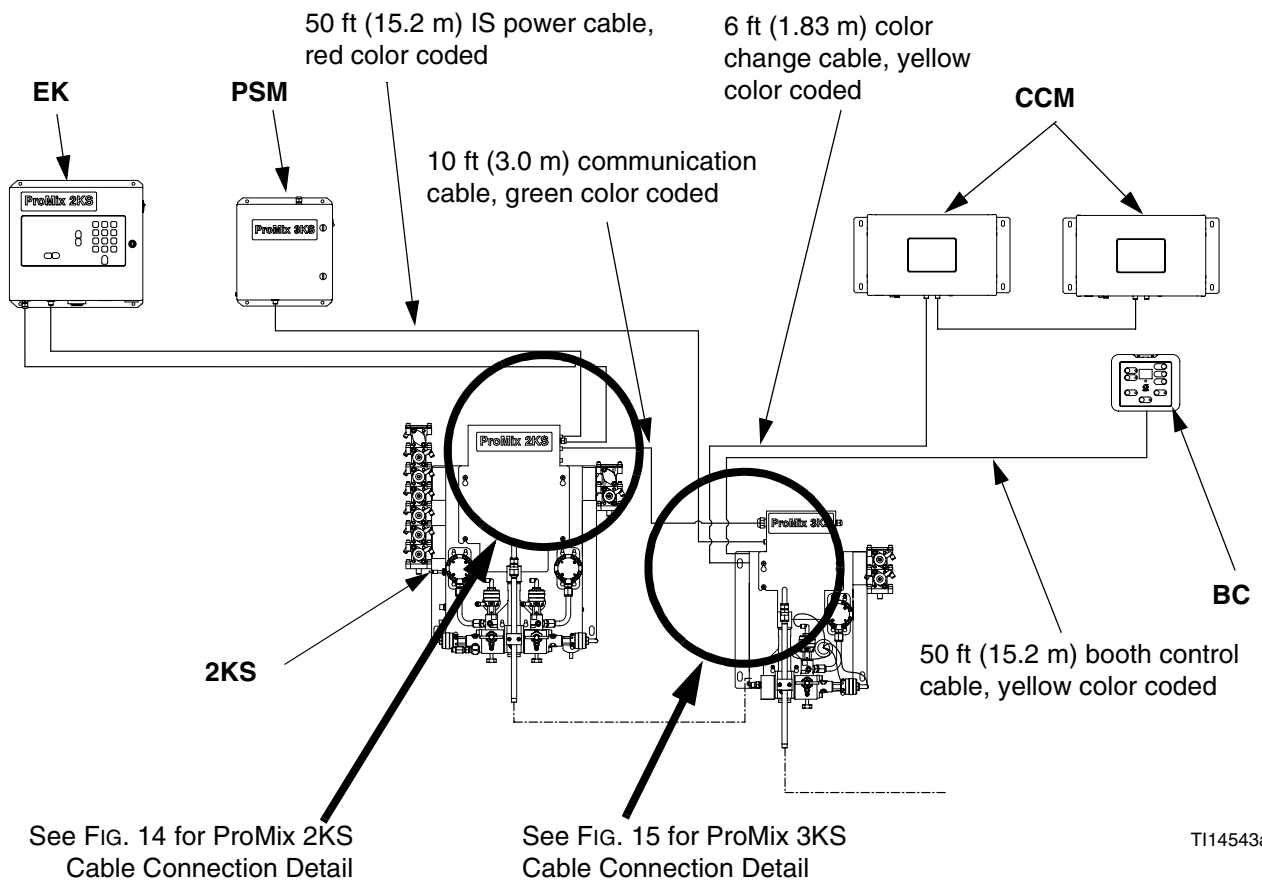

FIG. 13. ProMix 3KS Cabling Diagram
2. Connect the other cable end to the ProMix 3KS Fluid Station Control connector $\overset{\text{VDC}}{\oplus|-}$ (J3). See FIG. 13 and FIG. 15.
See FIG. 13 and FIG. 15.
(J2). See FIG. 13 and FIG. 15.
CAN (J8). See FIG. 13, FIG. 14, and FIG. 15.